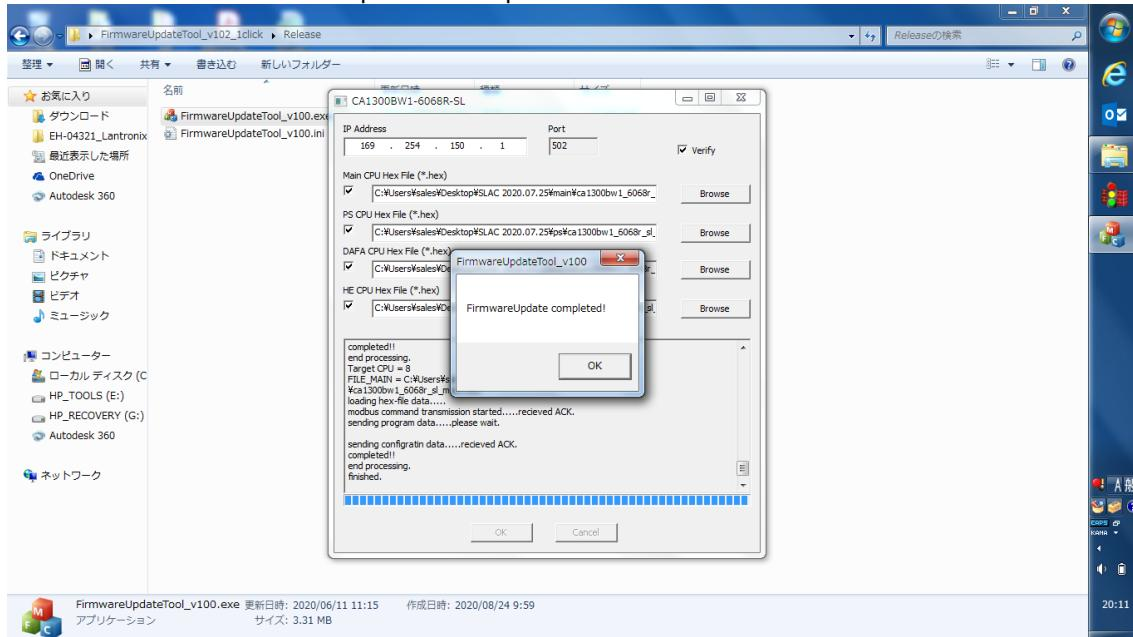

Fig. 13
- 13 If firmware is successfully updated, dialog box will open as Fig. 13. Click OK.